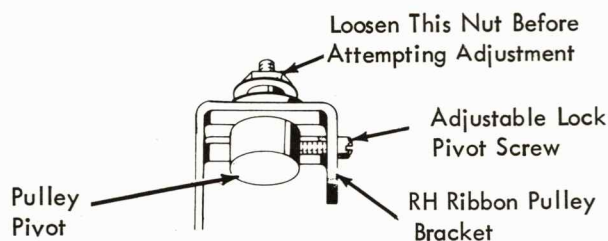

FIGURE 203. Right Hand Pulley
5. Right Hand Pulley (Fig. 203 & 204) - With the red shift armature energized, position the right hand pulley pivot to obtain .002" to .005" clearance between the stud and follower latch slot.